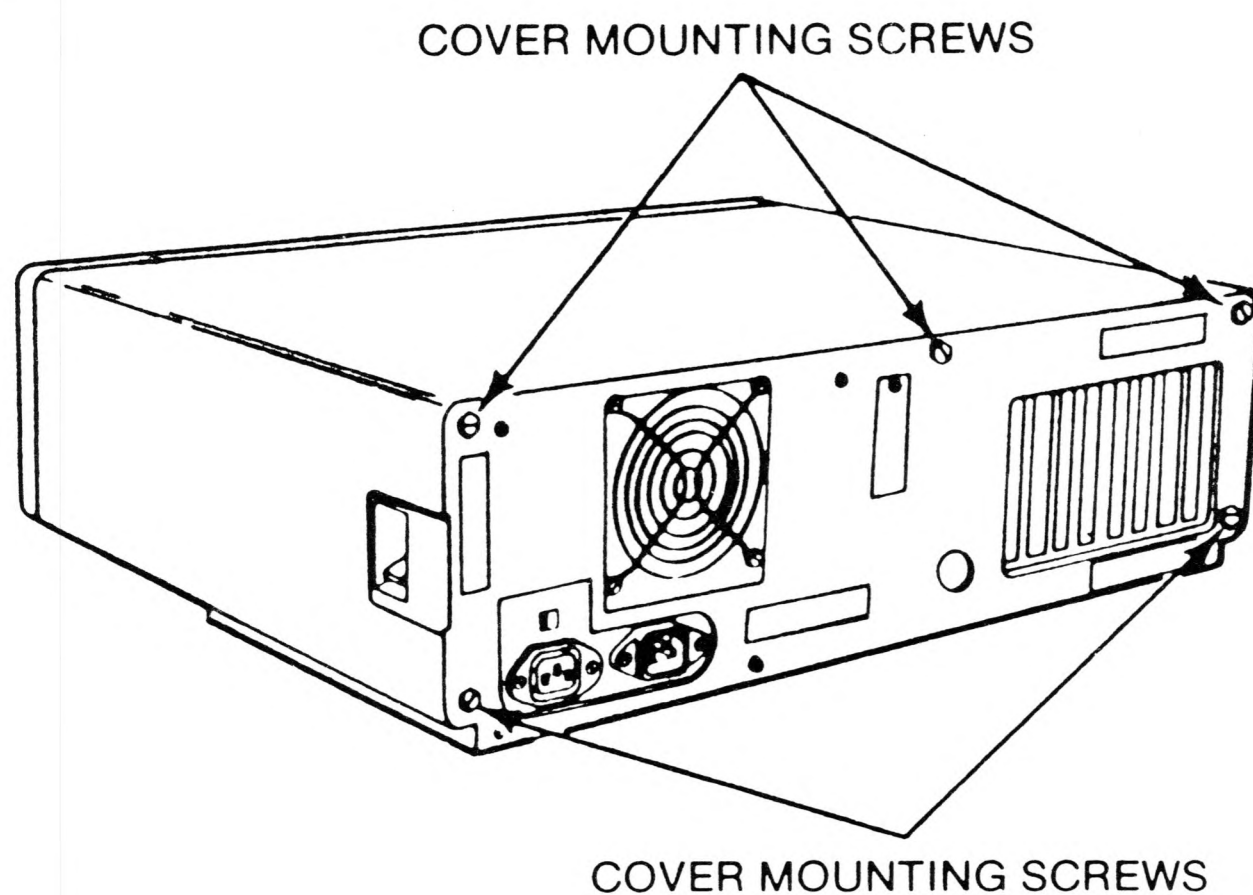

Figure 25: Cover mounting screws on the 1800
1. You got the right five screws. The cover mounting screws are all the same size. If you took out a different-sized screw, replace it right away and check Figure 25 again.